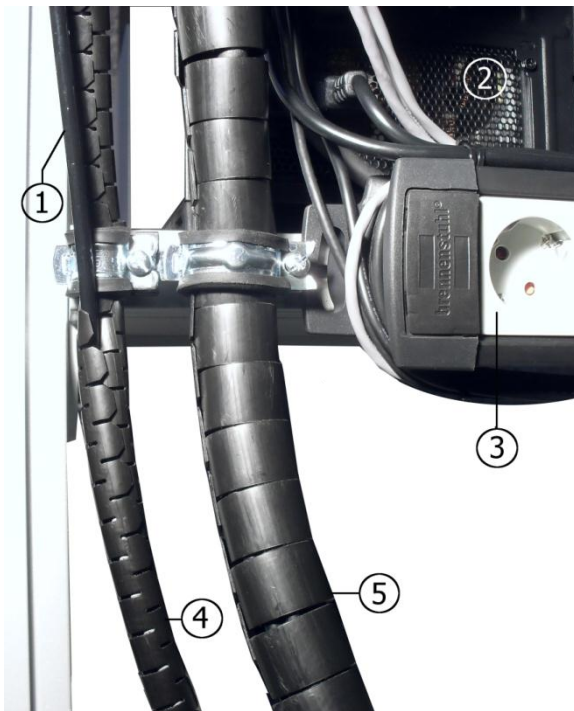

Fig. 4: Fixing the protective hoses at the Control Unit
- a. Fix the end of the protective hose of the TFT Surround Monitor with the help of the large hose clip at the rear of the movable rack (see Fig. 4).
- a. Fix the end of the protective hose of the Ball Holder with the help of the small hose clip at the movable rack of the Control Unit. The compressed air tube **must not be fixed** within the hose clip (see Fig. 4).